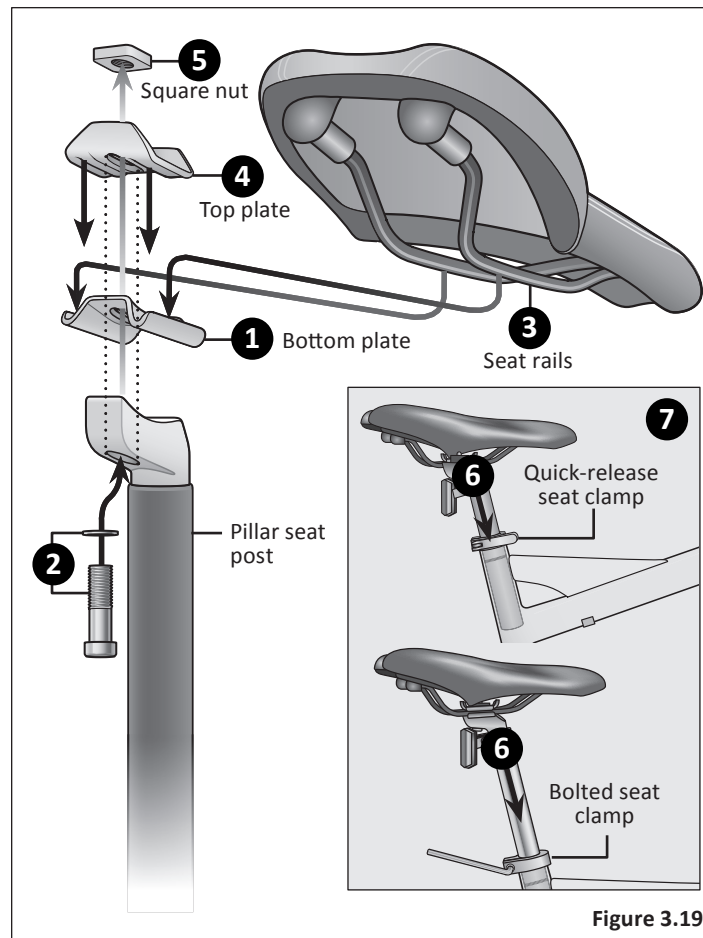

Figure 3.19
- 1 Place the bottom plate on the pillar seat post. Be sure the holes in the bottom plate and the holes in the seat post are aligned. **Figure 3.19**